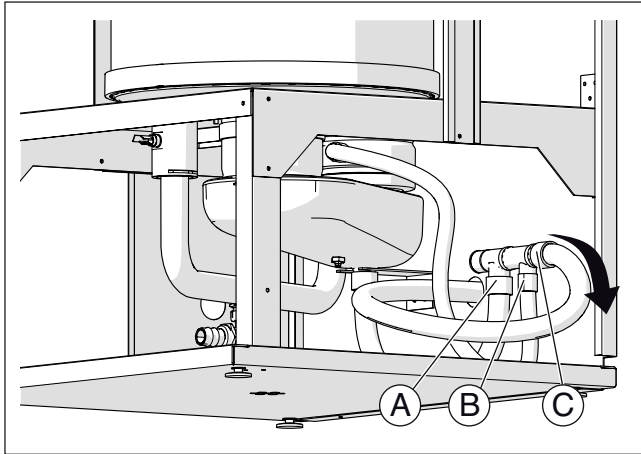

Fig. 15
**DANGER:** The condensate pipe A and B, shown in Fig. 15, must be filled with water or combustion gases will enter the room with a risk of an excessive level of carbon monoxide.